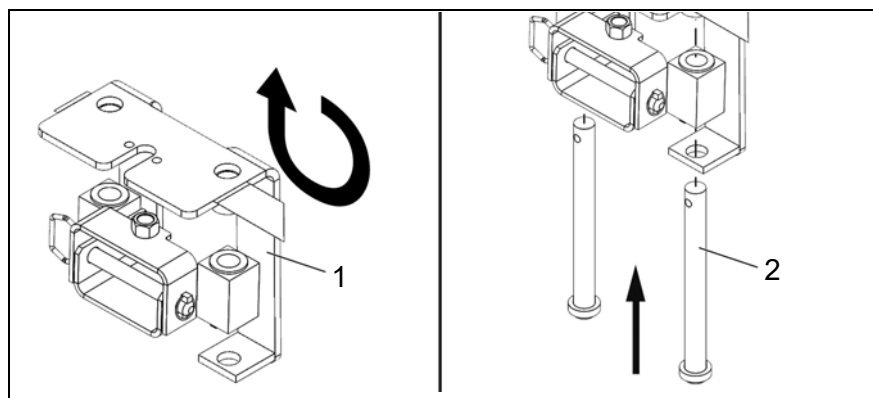

Fig. 8
14. Rotate the installation bracket (1, Fig. 8) by 180°. (omitted for the far side)
15. Insert the guide rods (2, Fig. 8). (omitted for the far side)
16. Insert the locking bolts (14, Fig. 8). (omitted for the far side)